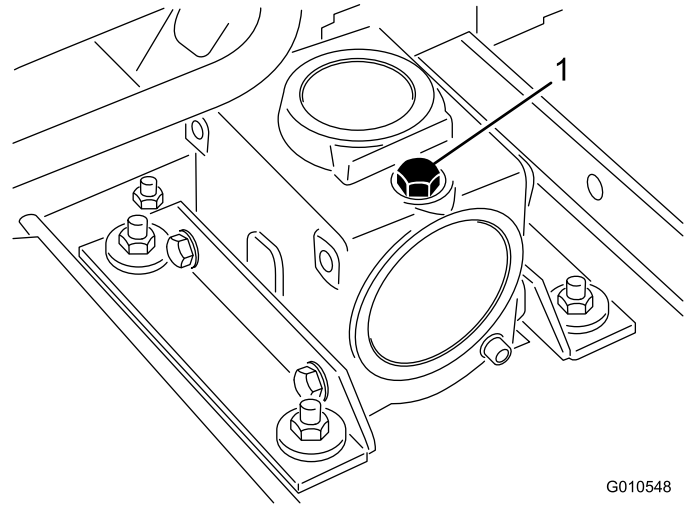

Figure 19
2. Position the machine and cutting unit on a level surface and lower the cutting unit. Remove the dipstick/fill plug from the top of the gear box (Figure 19) and make sure that the lubricant is between the marks on the dipstick. If the lubricant level is low, add SAE 80-90 wt. gear lube until the level is between the marks.